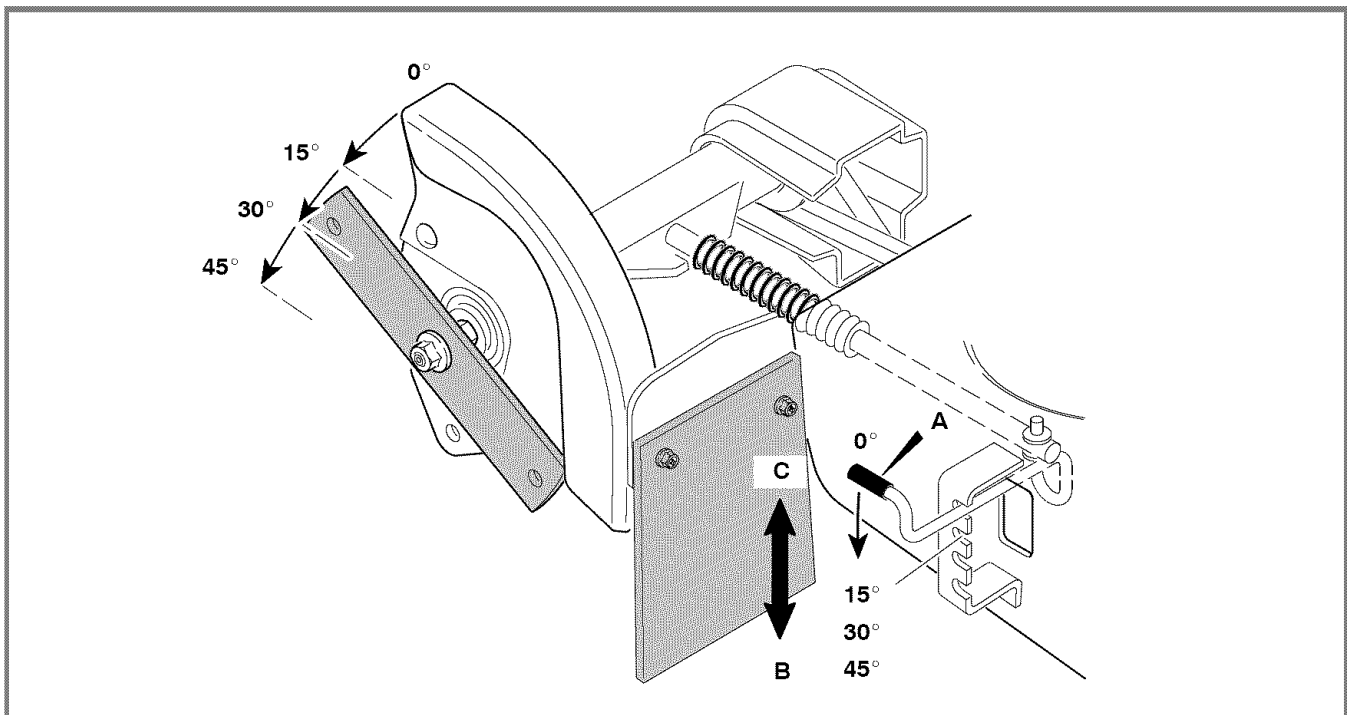

Figure 12: Index Lever
- 3 For a vertical cut (C), set the index lever in the top position (0°) See Figure 12.
- 4 For a bevel cut (B), set the index lever in one of the three bevel positions (15°, 30°, 45°). See Figure 12.